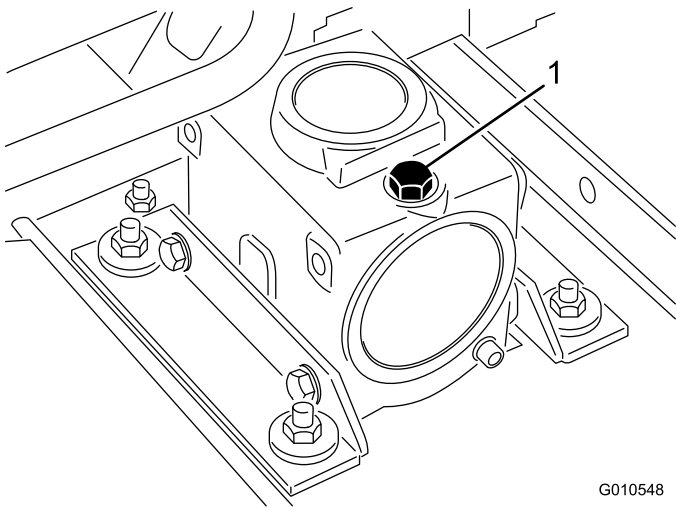

Figure 22
2. Position the machine and cutting unit on a level surface and lower the cutting unit. Remove the dipstick/fill plug from the top of the gear box (Figure 22) and make sure that the lubricant is between the marks on the dipstick. If the lubricant level is low, add SAE 80-90 wt. gear lube until the level is between the marks. The gear box capacity is 12 oz. (283 ml).